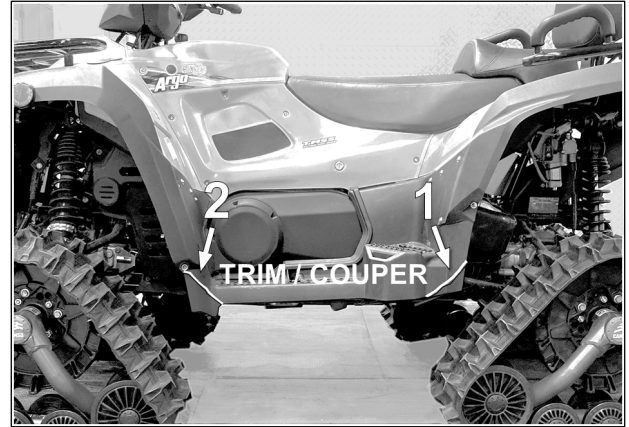

Fig. 19
- To prevent any possible contact between the undercarriages and the footguards, the outer corners of the footguards have to be modified. The modifications will help to avoid damages to the vehicle and to the track systems. Refer to Fig. 19